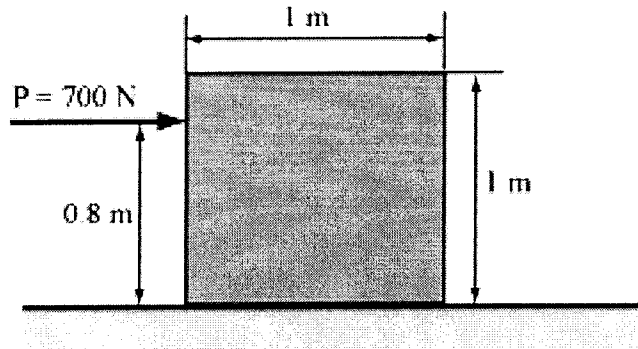

Figure Q1[a]
- Q1. [a] A uniform 50 kg crate rests on a horizontal surface for which the coefficient of kinetic friction is $\mu_k = 0.2$. Determine the crate's acceleration if a force of $P = 700$ N is applied to the crate as shown in Figure Q1[a].